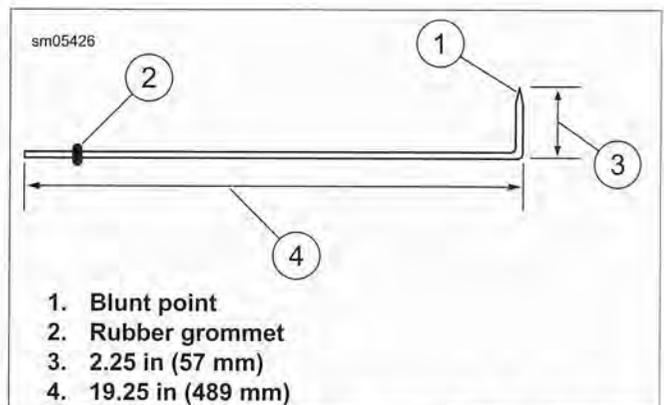

Figure 1-55. Wheel Alignment Tool: XL Models
2. **For XL Models:** See Figure 1-55. Fabricate an alignment tool using a piece of 1/8-in (3.175 mm) diameter aluminum welding rod 21.5 in (546 mm) long. Grind one end down to a blunt point. Use pliers to bend rod at a 90 degree angle, 2.25 in (57 mm) from the blunt point, as shown. Place a snug-fitting rubber grommet (2) on rod to act as a slide measurement indicator.